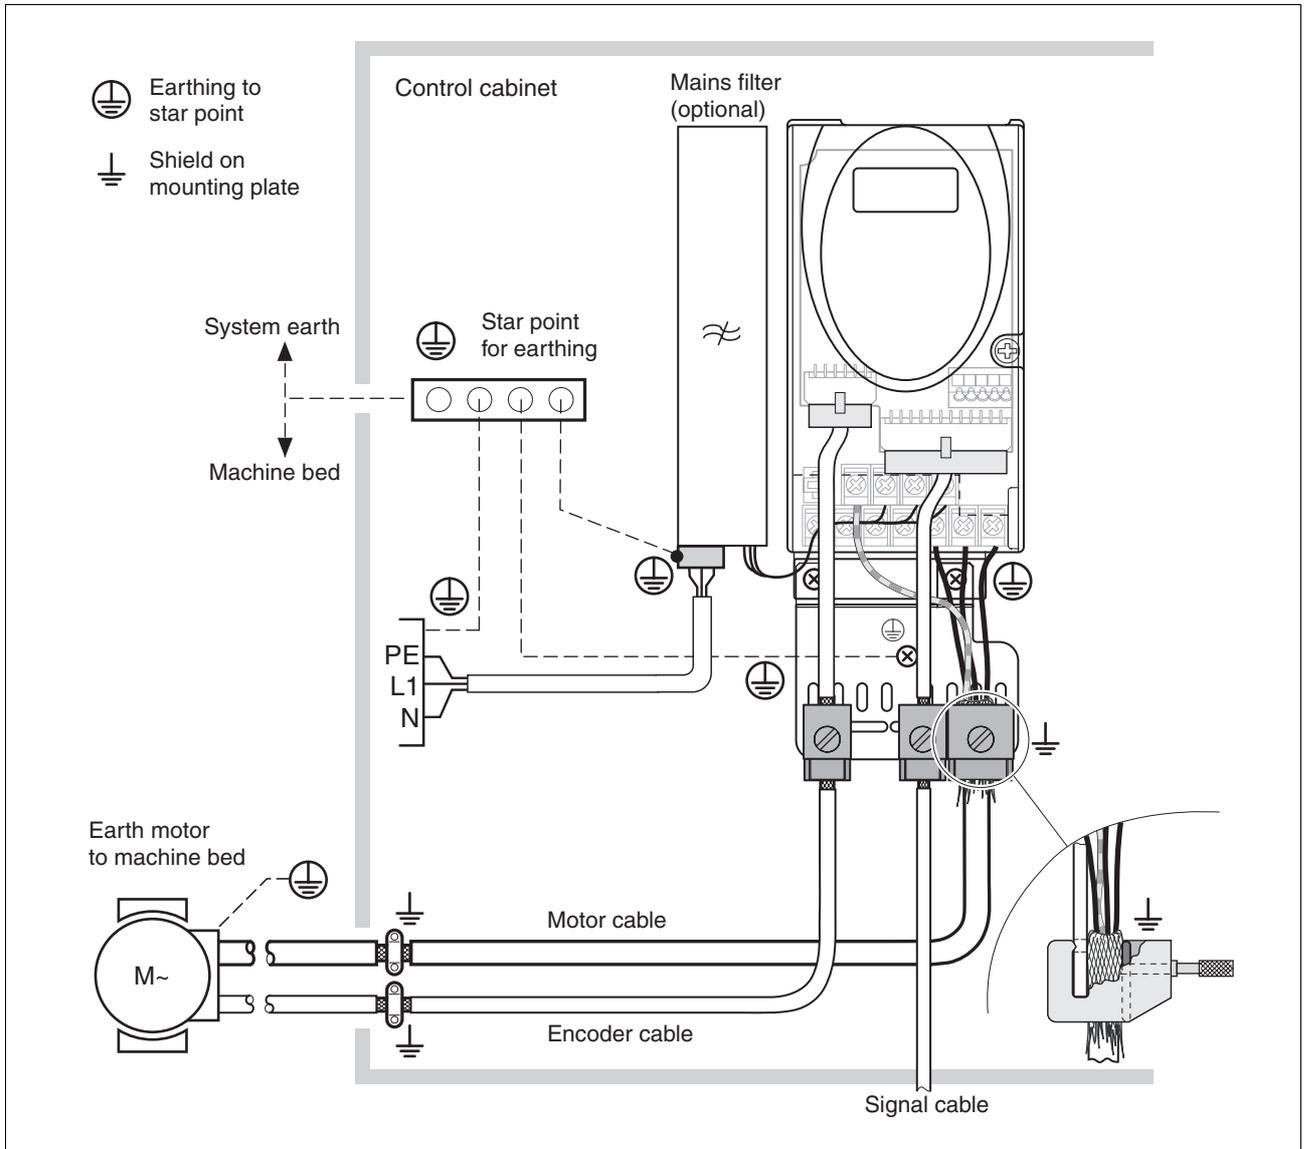

Figure 4.1 EMC measures1
- ▶ Attach the EMC plate at the bottom of the device, see also Figure 4.1, or use alternative attaching elements (comb bars, shield clamps, bus bars).